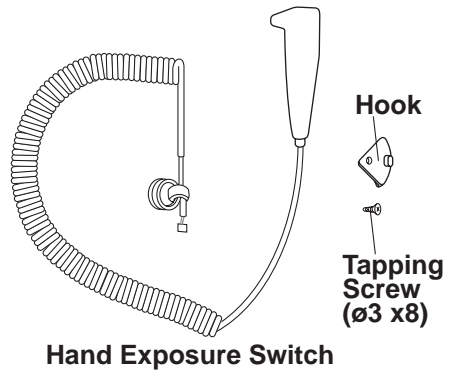

Fig.3-22 Hand Exposure Switch Kit
1. Confirm the contents of optional hand exposure switch kit. **(Fig.3-22)**